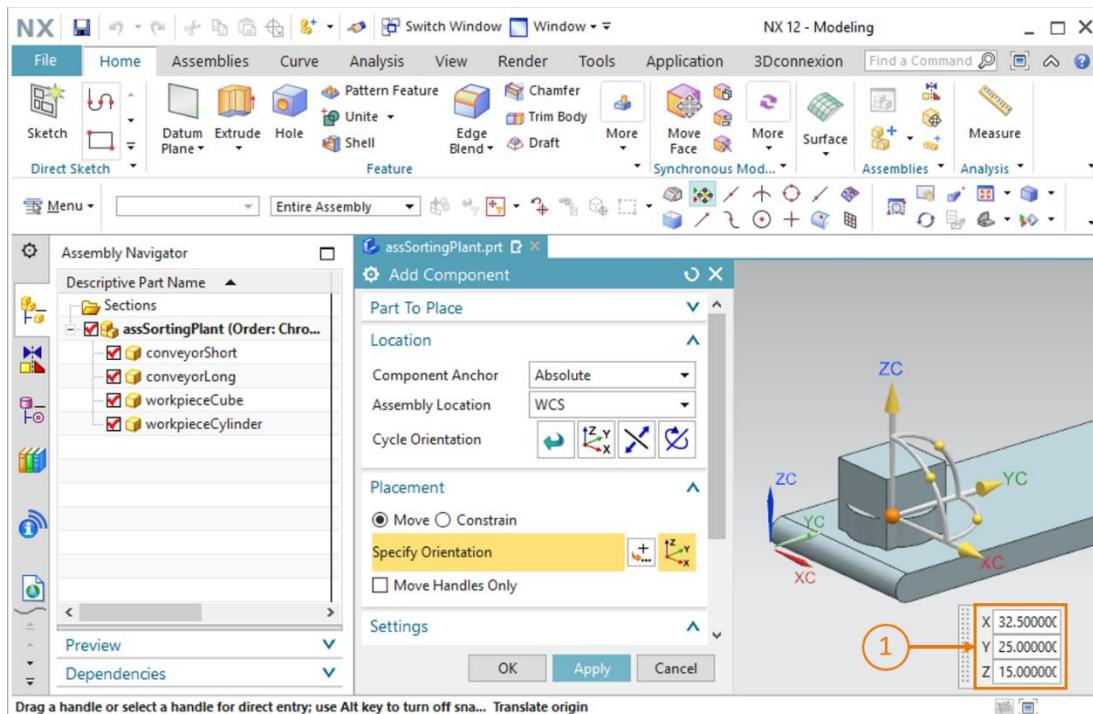

Figure 59: Positioning the "workpieceCylinder" model on the conveyor belt
- Enter the following coordinates for the placement, as shown in Figure 59, step 1: